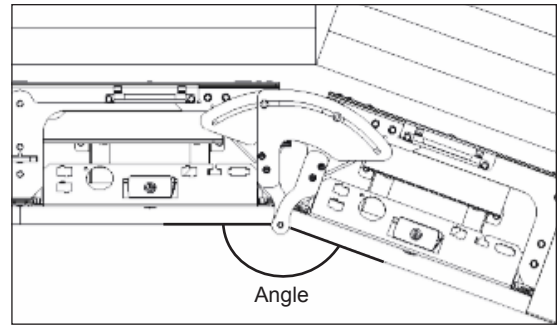
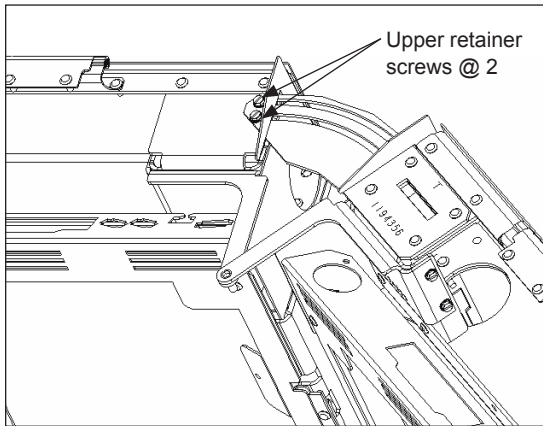

**Figure 22: Loosening Upper Retainer Hardware**
**Figure 23: Loosening Lower Retainer Hardware**
2. Loosen the retainer nuts and screws from the upper and lower support brackets and release the latches holding the wing to the shell. Refer to **Figure 22** and **Figure 23**. The wing section is now free to rotate.